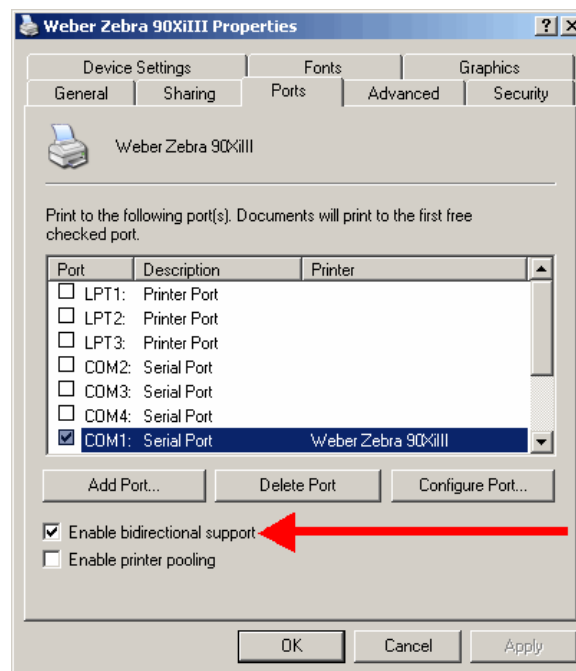

Figure 26
31. **Uncheck** the Enable Bidirectional Support option (near the lower left) UNLESS your printer is USB enabled. (Figure 26)